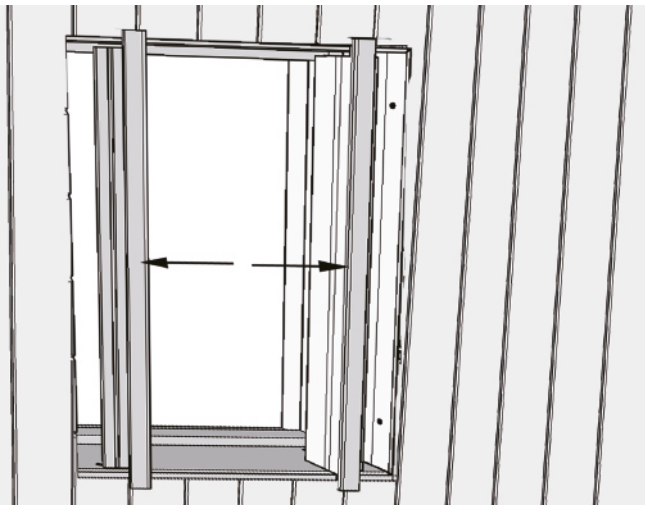

Fig20-1
4. Doors and windows HLYC-014F installation. As shown in Figures 20-1, 20-2, 20-3: